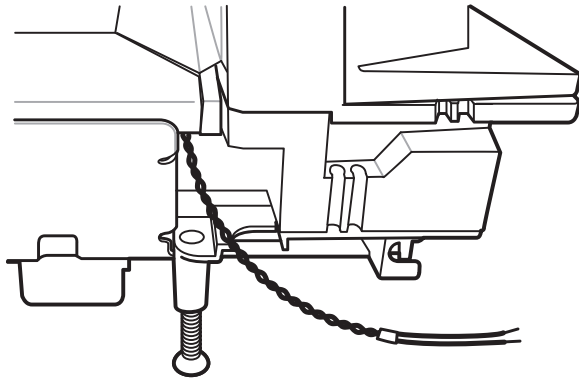

Figure 3-26 *Antenna Leads for Checkpoint Controller Connection*
- The horizontal Checkpoint antenna should be set into place in the middle housing of the MP70XX, under the platter, and the antenna leads for controller connection should be placed as shown in Figure 3-26. (See page 1-10 for cable routing.)
4. Route the antenna leads, with partly-stripped ends, as pictured in Figure 3-26 hanging several inches below the MP70XX so that the Checkpoint controller lead wires can tie into the antenna.